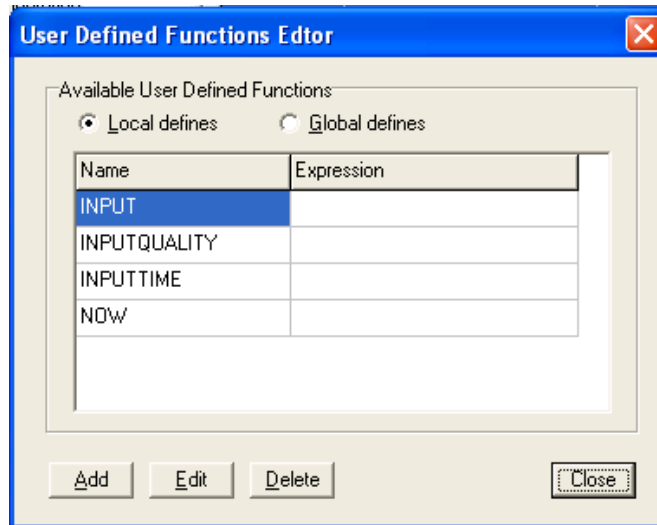

Figure 62 - User Defined Functions Editor
11. If required, from the **Select variable** window, click on the **Modify variables** button to access the **User Defined Functions Editor** (Figure 62) which allows you to add, change, or delete variables.